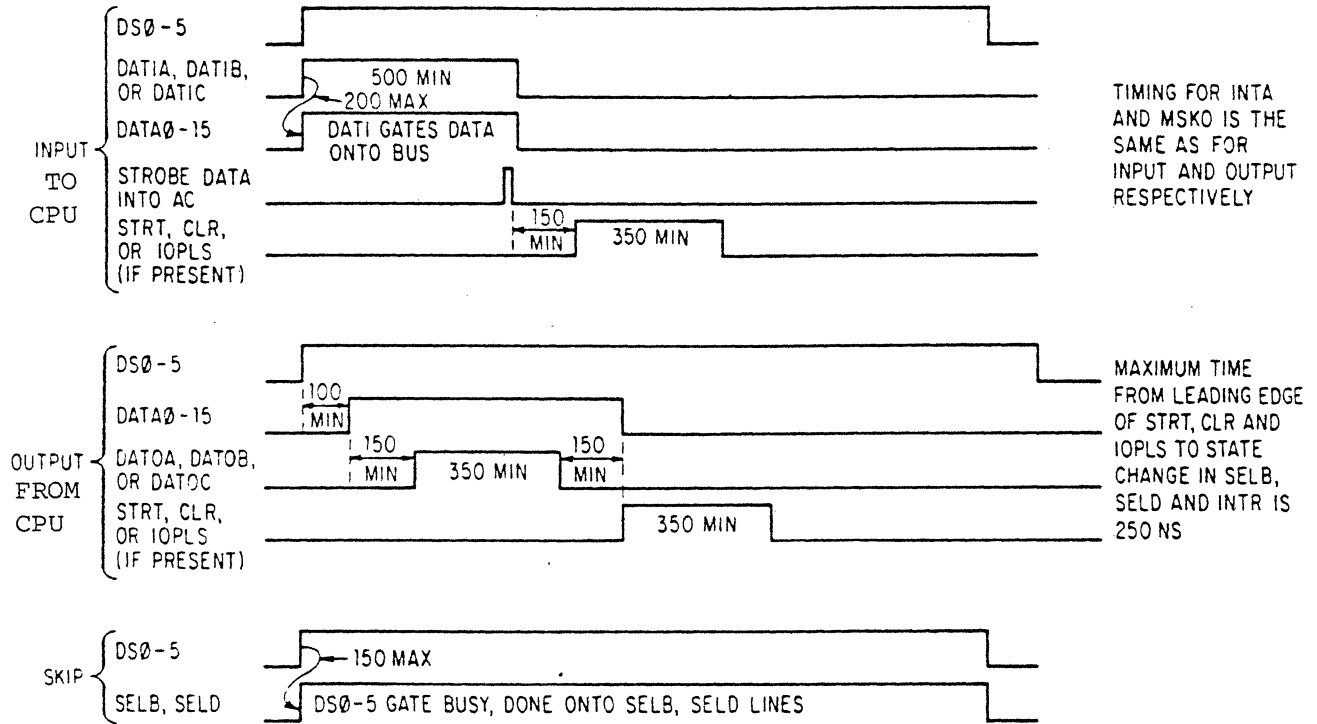

Figure 4-10 PROGRAMMED TRANSFERS (IN-OUT INSTRUCTIONS)
4.30 PROGRAMMED TRANSFERS (Figure 4-10). Throughout the duration of any in-out instruction, the processor holds the device code on the device selection lines (DS \emptyset -5) for decoding by the device. The processor generates DATIA, DATIB, or DATIC to place the corresponding register on the data lines in the device selected by DS \emptyset -5. At the end of the DATI level the processor strobes the data into the AC selected by the instruction. Following the transfer the processor generates the pulse for the Control Function if called for by the instruction. The acknowledgment of an interrupt is the same as data input except the INTA (which replaces the DATI) places on the data lines the device code of the nearest device that is requesting an interrupt.